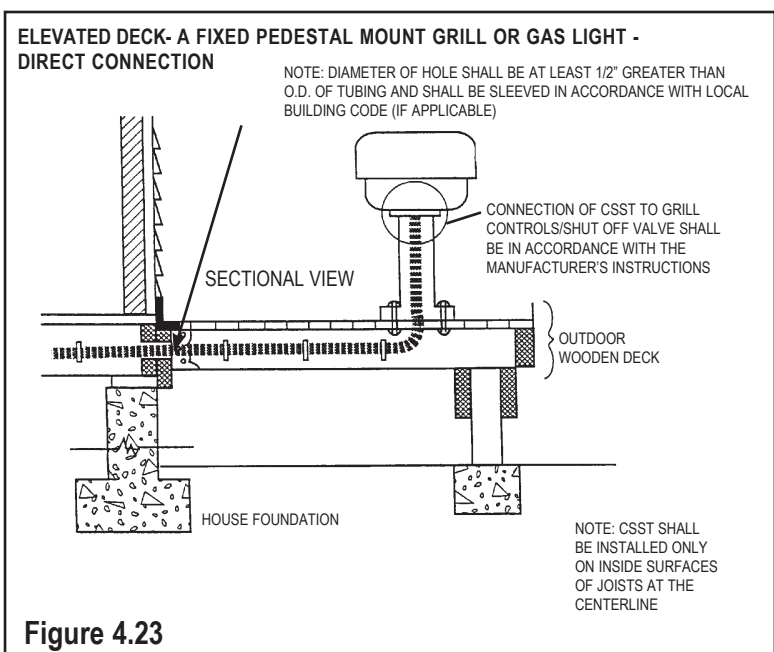

Figure 4.23
- B. Permanently mounted grills located on decks shall be connected to the CSST system as shown in figure 4.23 and in accordance with the manufacturer's instructions. The outdoor portion of the CSST system shall be supported against the side of any inside deck joist.
- C. Permanently mounted outdoor lights located on decks shall be connected to the CSST system in the manner as permanently mounted grills as shown in figure 4.23 and in accordance with manufacturer's instructions.